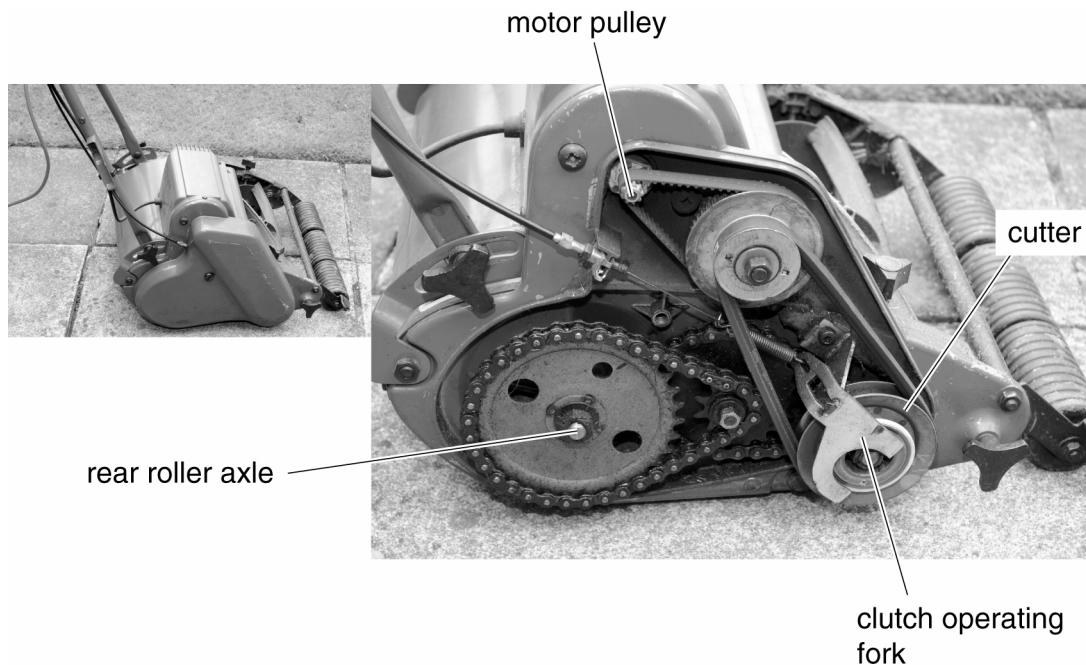

Fig. 5
- (c) Fig. 5 shows two views of a lawnmower. One view shows the cover removed from the side.